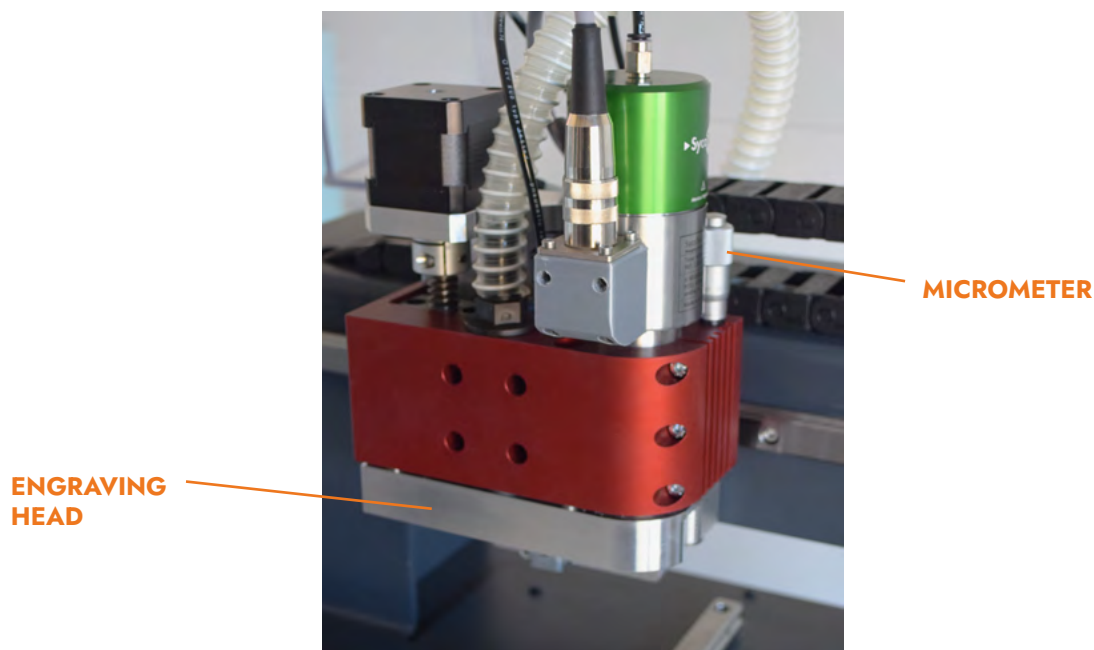

Figure 6 - Milling head
5. Make sure the engraving head is on proper place. (See picture: Figure 6 - Milling head).